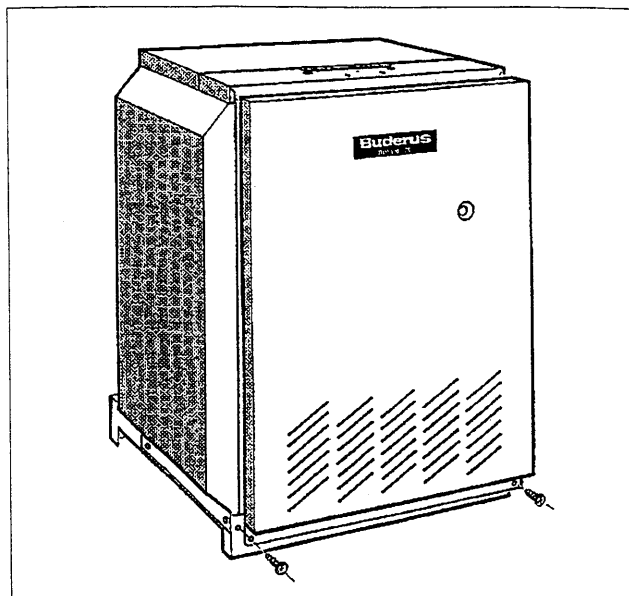

Fig.2
4. Remove Control Access Panel fig. 2.
8. Replace Control Access Panel fig. 2.
3. Remove Control Access Panel fig. 2.
5. Replace Control Access Panel fig. 2.